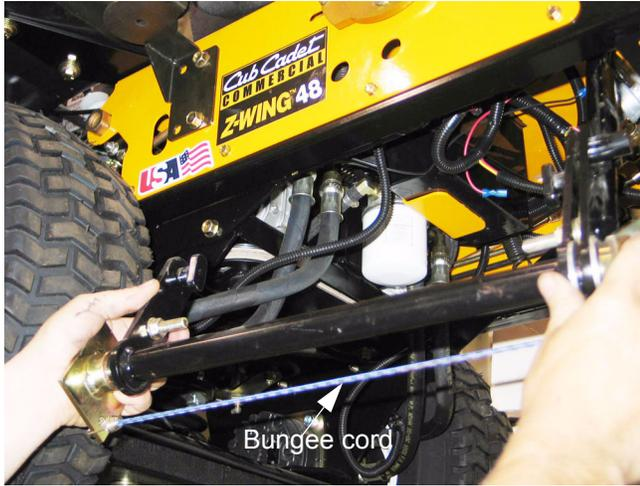

Figure 14.15
14.15. Rotate the left end of the lift shaft rearward to free the deck height control handle from the index assembly, and remove the assembly to a workbench. See Figure 14.15.